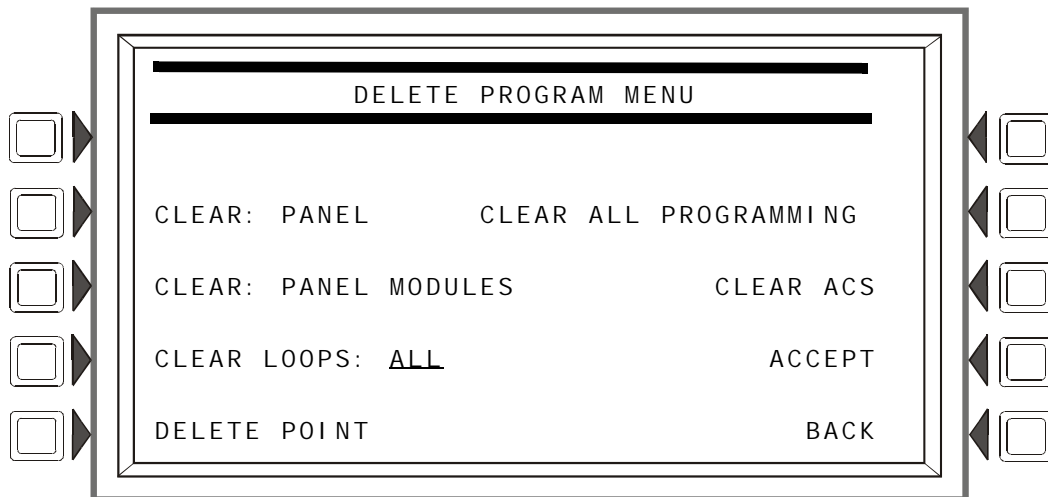

Figure 3.46 Delete Program Menu Screen
1. Use the Delete Program Menu screen (refer to Figure 3.46) to clear any applicable programming from the panel. For example, if loops one and two are to be autoprogrammed, clear the programming that exists by entering 1+2 at the Delete Program Menu screen.